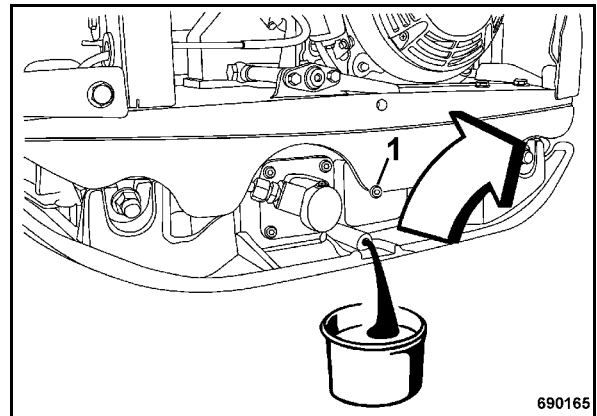

Fig. 57
- Tilt the machine to the side with the oil drain plug and support it safely (Fig. 57).
- Unscrew the bleeding screw (1).